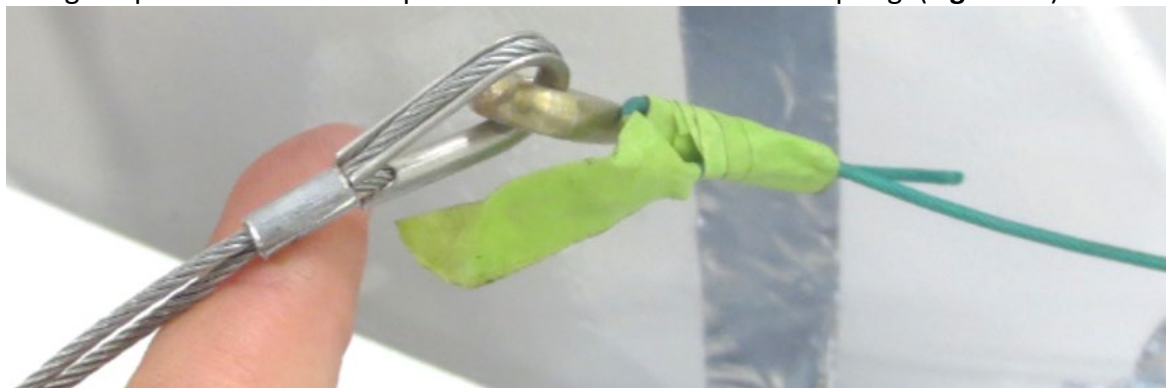

Figure 16. String on Cable End
- v. Use adhesive tape to attach cable end to the appropriate string used earlier and use these strings to pull the cable ends up to the retraction actuator and spring. **(Figure 16)**